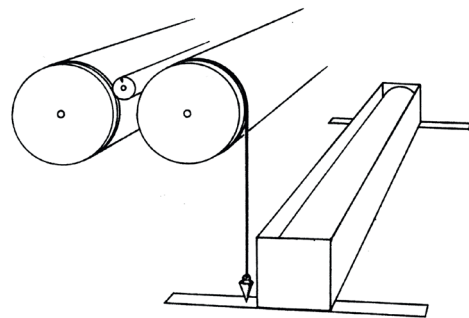

FIGURE 1. Use of plumb bob for proper placement of box.
5. If you install your new fabric directly from the shipping box, proper placement of the box is critical. It must be level, perpendicular to the machine center line, and have adequate clearance from the machinery. It is common to use a plumb bob (Figure 1) to find the proper placement of the box.